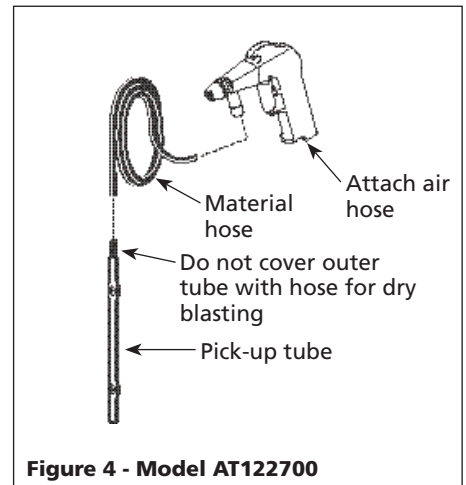

Figure 4 - Model AT122700
1. Attach material hose to the pick-up tube. Place pick-up tube in bag of medium. (See Figure 4).